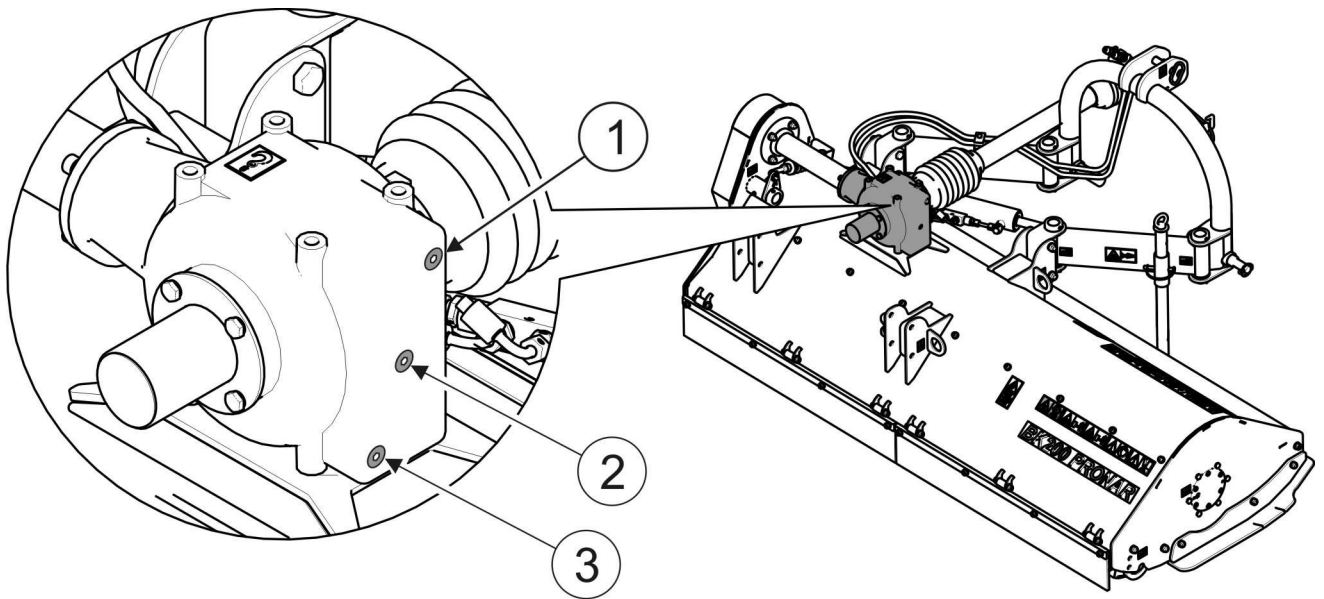

FIG. 5.5 Checking and change of oil in intersecting axis gear
- unscrew inspection plug (2) (FIGURE 5.5),
- oil level should reach the lower edge of the inspection plug opening (2),
- if necessary, supplement oil through inlet opening (1) to the required level.